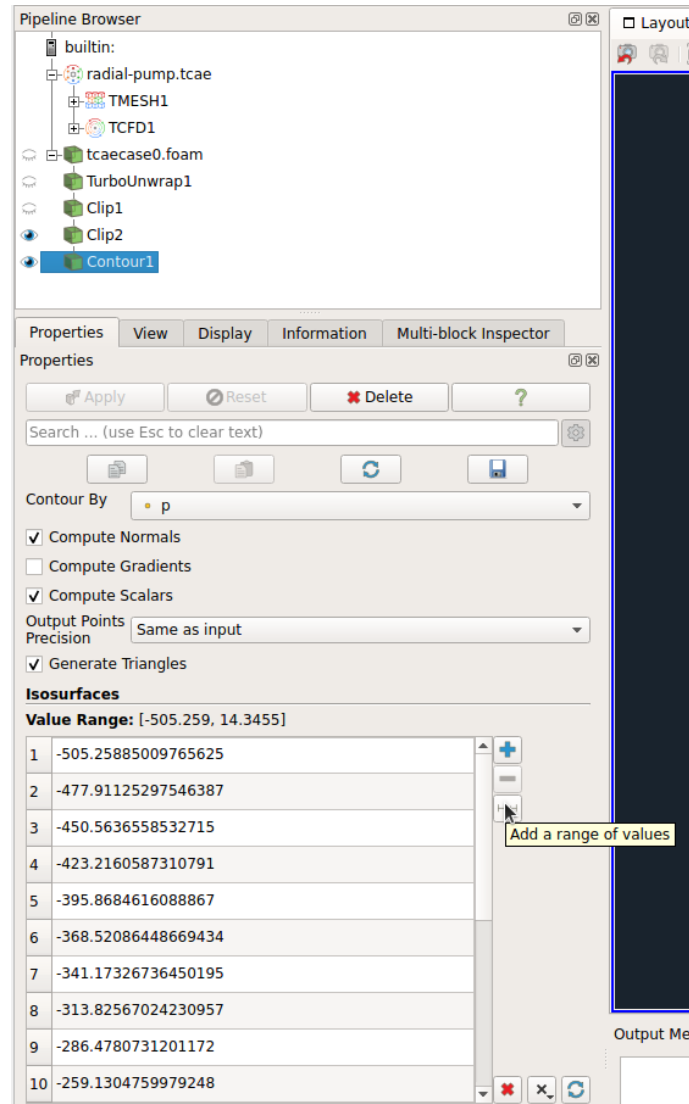

Figure 16.26: Settings of the filter *Contour* applied on a isolated pump blade transformed by Turbo Unwrap filter.
Step 9 — Append the filter *Contour*. In the drop-down list *Contour By* select the pressure field. Use the red cross button to erase suggested contour values (right bottom of the box *Value Range*) and then press grid button (right top) to populate the list of contour values by equidistant values covering the whole pressure range. Do not modify the suggested minimal (*From*) and maximal (*To*) values, and use e.g. 20 samples (*Steps*). See the Fig. 16.26.